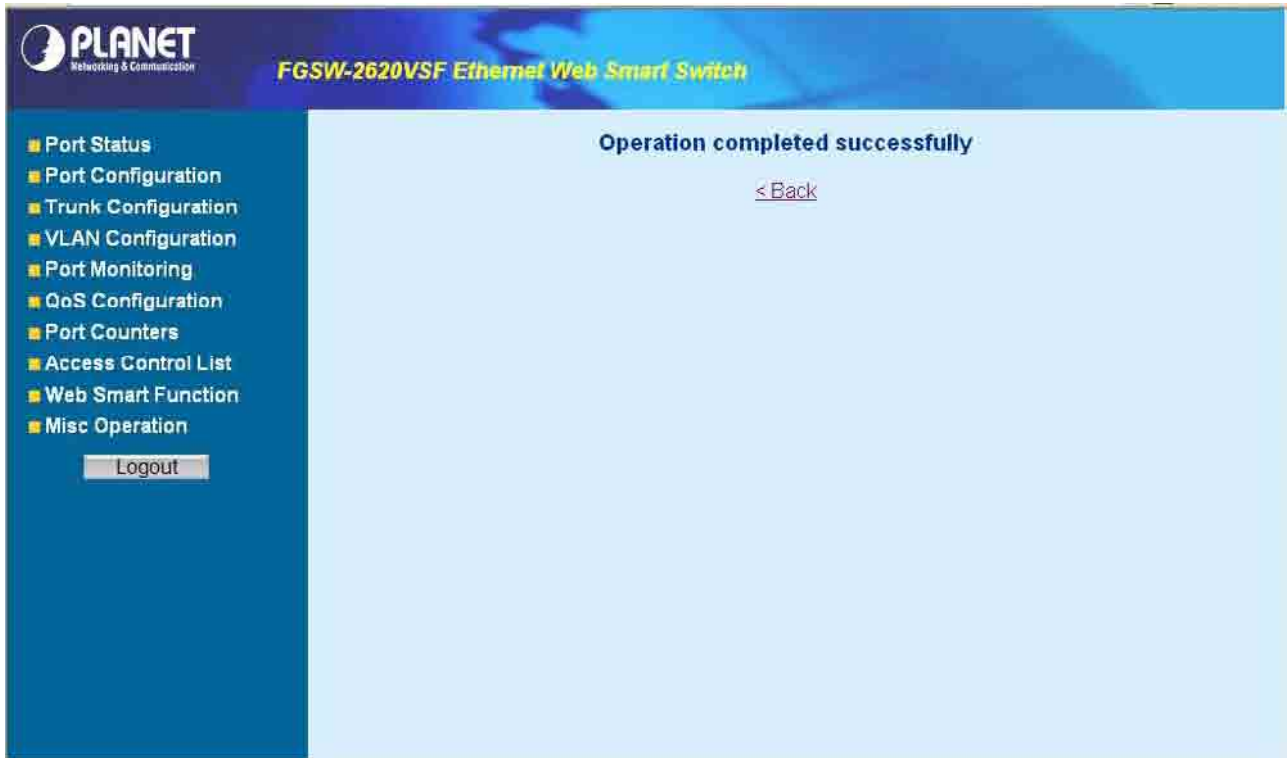

Figure 4-66 Web Smart Function Web Page screen
2. Check the port that need to marked, the screen in Figure 4-66 appears.